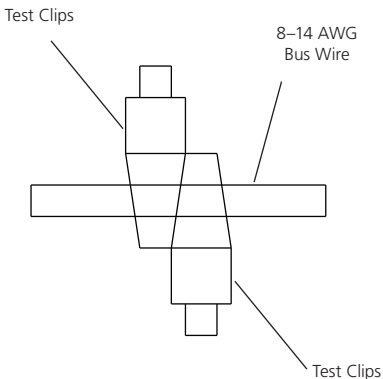

Figure 4-7. Wire under test.
2. Short the leads as illustrated Figure 4-7. Once connected properly to the bus wire, press the **LEAD CAL** key again. The unit will beep and display **OPEN LEAD**.